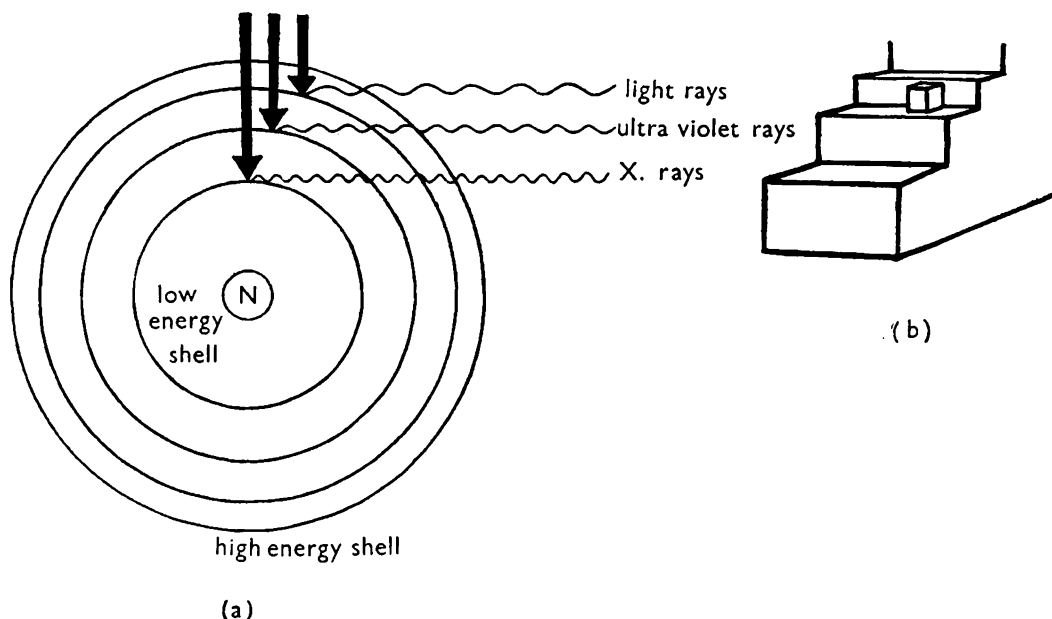

Fig. 206
Here is a gravitational analogy to help you understand these energy levels in an atom. Imagine a box sitting somewhere on a flight of steps (Fig. 206(b)). It possesses a certain amount of energy because of its position. *What is this energy called? (7)* If you raise the box to a higher step you have to do work. *Why? (8)* The box now possesses more energy.
If an electron is raised from a shell near the nucleus to an outer shell it then possesses more energy. This stored energy can be used to produce other forms of energy if the electron falls back to its original shell. To raise the electron to an outer shell requires energy, and this may be provided by heating the substance, or by bombarding the atom with fast moving electrons. When some of their electrons have been raised to their outer shells, atoms are said to have been *excited*. They do not remain in this state for long, however, and soon the electrons jump back into shells at lower energy levels. As they jump back energy is given out in the form of light waves, ultra-violet rays or X-rays (Fig. 206(a)). When an outer electron jumps to the next shell light is given out. With bigger electron jumps ultra-violet rays are emitted, and if an outer electron jumps back into the inner shell X-rays are produced.